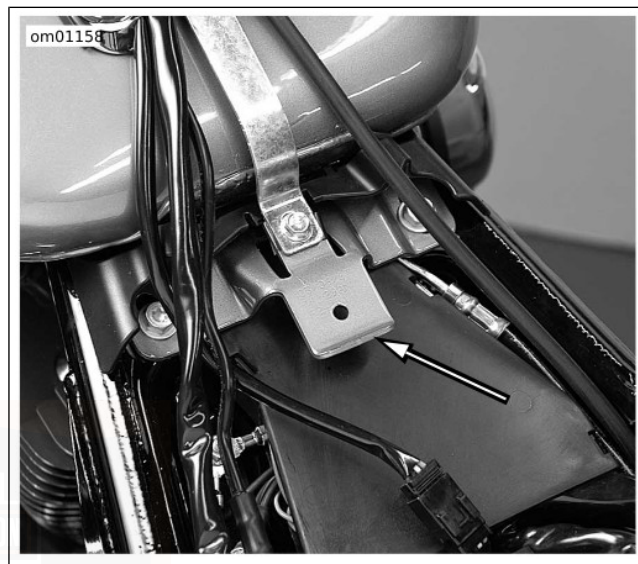

Figure 79. Seat Tongue: Touring Models
4. See Figure 79. Push seat rearward to free tongue from slot in seat.
2. See Figure 79. Firmly push front of seat downward and rearward until tongue engages slot in frame backbone.
7. See Figure 79. While pushing seat forward, raise rear of seat until bracket clears top of Tour-Pak. Push seat rearward slightly to free tongue from slot in seat.
5. See Figure 79. Firmly push front of seat downward and rearward until tongue disengages slot in seat.
2. See Figure 79. Firmly push front of seat downward and forward until tongue engages slot in seat.